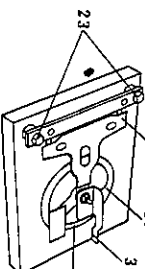

Fig. 32
Set in (15) SPRING WASHER and lightly clamp (23) NUT shown in Fig. 32
Slowly clamp (23) NUTs shown in Fig. 32 alternately so as to set (37) FORCE COIL BOBBIN at the center of gap, as shown in Fig. 33.